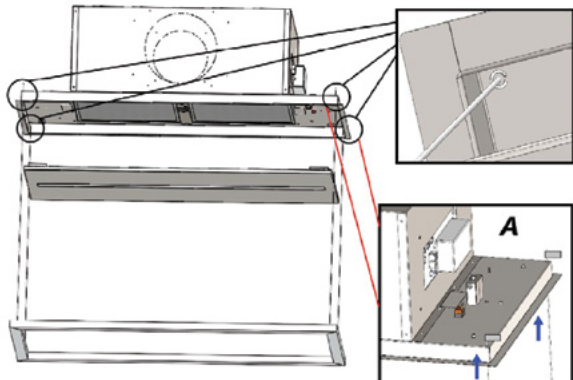

Fig.1
Step 1a: The Filter Cover is held in place via four magnets. Accessibility to the filters is achieved by gently pulling down on the cover as per fig.1